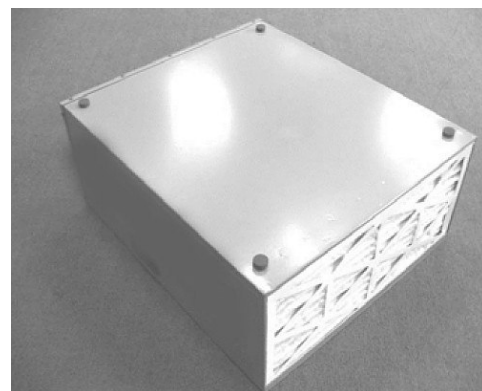

Fig. 4: Mounting the rubber foot
Step 1: Place the air filter system on the floor with the bottom of the housing facing upwards as shown in Fig.4.